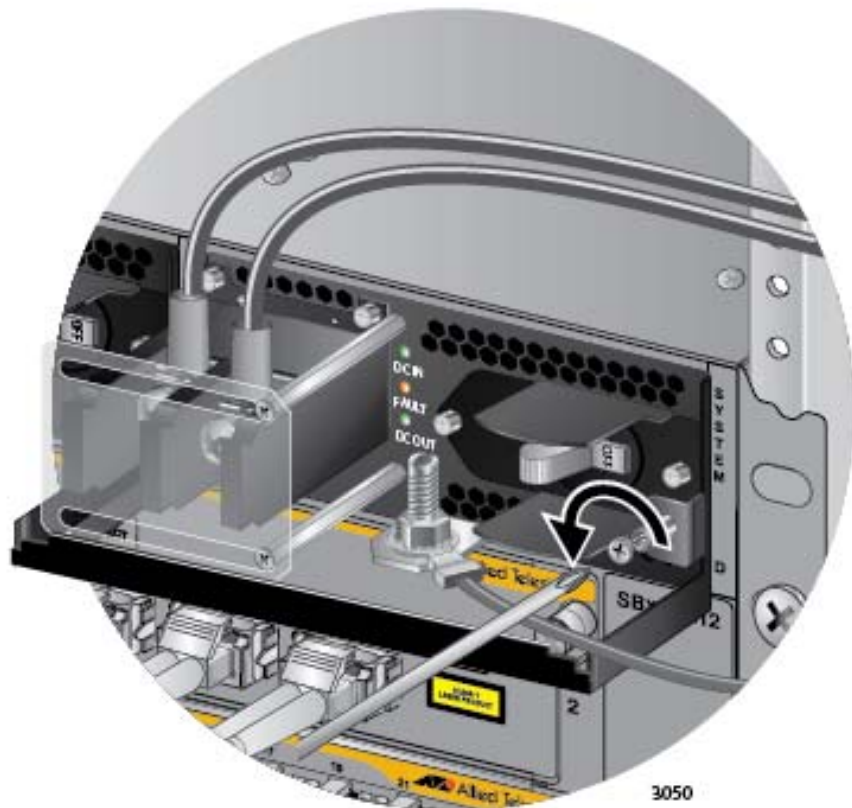

Figure 158. Loosening the Screw on the Locking Handle
3. Use a #2 screwdriver to loosen the screw on the locking handle. Refer to Figure 158.